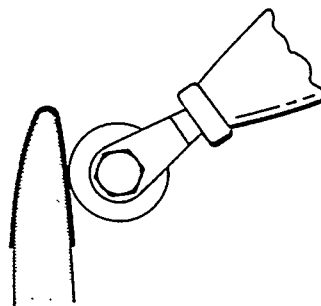

Figure 11-12. Edge Rolling
i. Roll outwardly from the center line to the edges of the boot. (See Figure 11-12.) If excess material at the edges tends to form puckers, work them out smoothly and carefully.